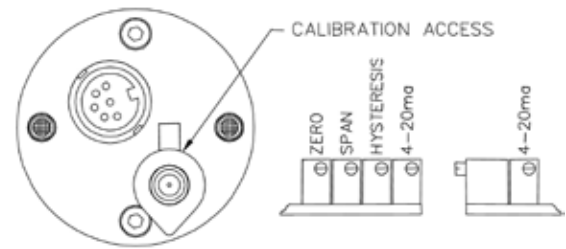

Figure 6
4. Locate the calibration access cap on top of the GP valve and locate the ZERO and SPAN adjustment potentiometers (See Figure 6). The 4-20mA potentiometers should be set at the factory and do not need to be recalibrated. **NOTE:** Only use this step if your device is totally out of calibration. If it is slightly out of calibration, omit this step and move on to paragraph 5. Using a small screwdriver, turn both potentiometers 15 turns clockwise. Then turn them 7 turns counter clockwise. This will put the GP roughly at mid-scale.
8. If at any time during the calibration procedure the servo oscillates or becomes unstable for more than one second, turn the hysteresis potentiometer “HW” (see figure 6 for location) clockwise until the oscillation stops, then turn it one more complete turn (same direction).